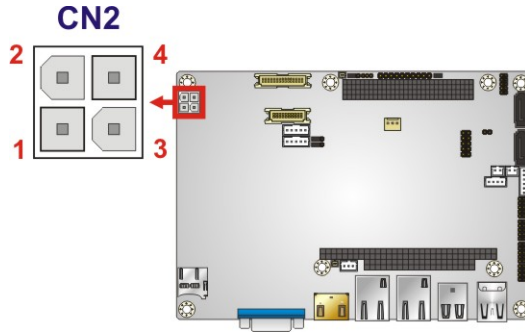

Figure 3-17: Power Connector Location
- CN Location:** See **Figure 3-17**